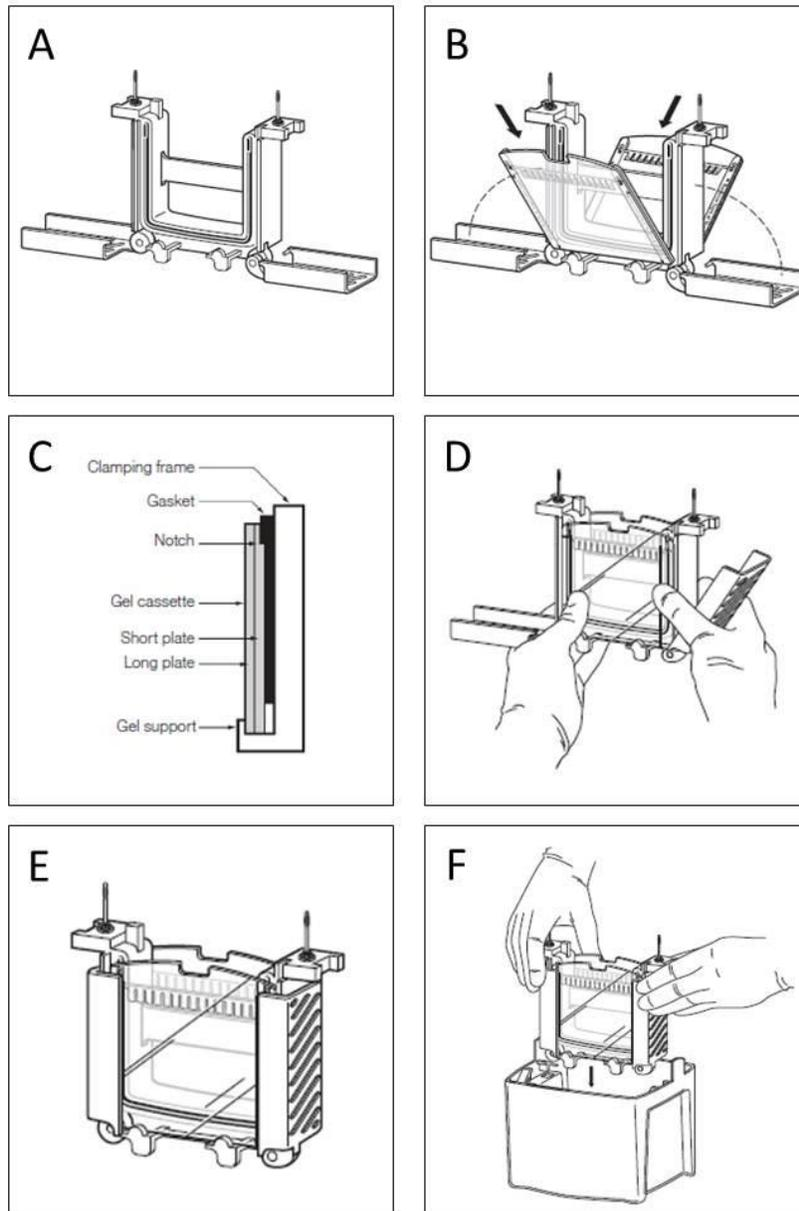

Figure 12.5 Assembly of Mini-PROTEAN® Tetra Cell for Mini Precast Gels
2. Wearing gloves, remove two pre-cast Bio-Rad Mini-PROTEAN® TGX™ 4-15% gradient polyacrylamide gels from the sealed pouches. Remove the combs by pulling upward in one smooth motion. **Remove the green tape** from the bottom of each cassette. Mount each gel cassette into the electrode assembly as demonstrated by the instructor and shown in Figure 12.5. The shorter plate should face in towards the inner buffer compartment and fit up against the flat green gasket on the central core.